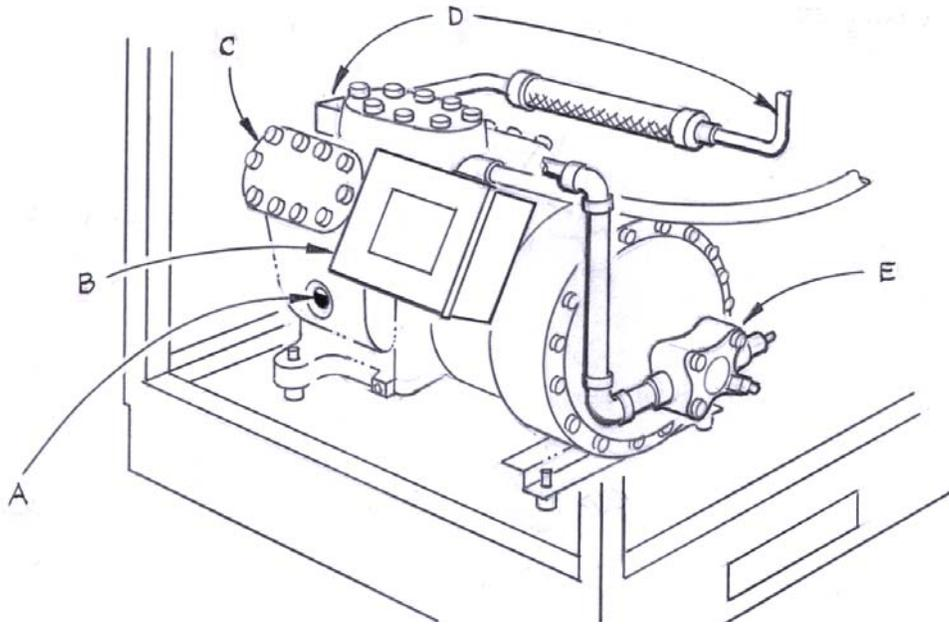

Figure 3-26: Compressor parts location
<p>EXTREME TEMPERATURES EXIST Do not reach inside the compressor compartment when the unit is operating. The compressor's heads and discharge line may be hot; contact with the hot surface may result in minor or moderate injury. Do not touch the compressor's heads or discharge line. See Figure 3-26.</p>
5. Remove the unit's left panel. Locate the oil sightglass on the compressor. (Figure 3-26.) It should be 1/8 to 1/2 full (1/8 full is preferred) while the compressor is running for at least 60 minutes.